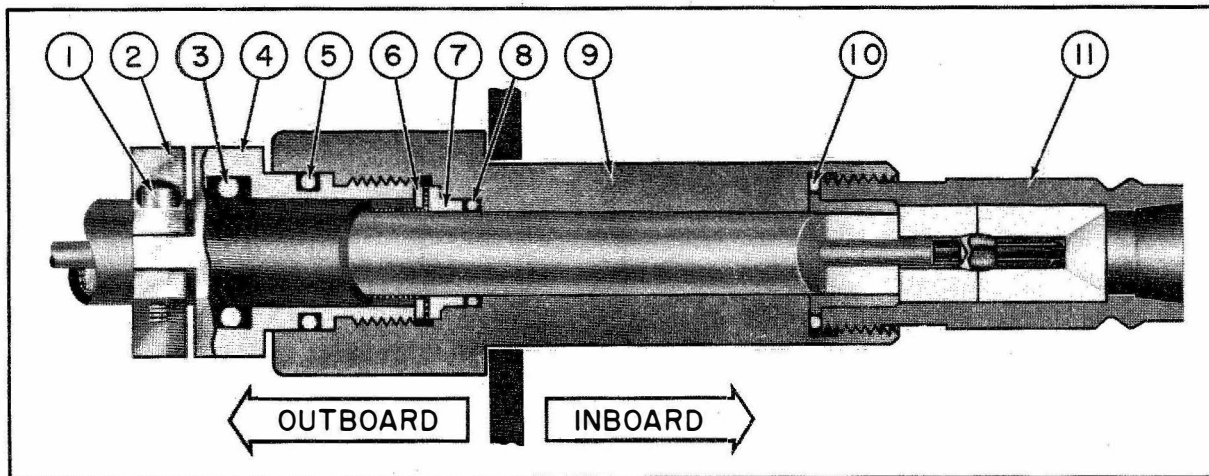

Figure 5-9a. UG-988D/U Assembled
(4) UG-988D/U Detailed Assembly. - This fitting is used with RF coaxial cable types RG-17/U, RG-17A/U, RG177/U, or with other types having a jacket OD of 0.855 inch minimum - 0.910 inch maximum, a dielectric OD of 0.665 inch minimum - 0.695 inch maximum, and an inner conductor diameter of 0.187 inch maximum. The cable is terminated in the fitting, inside the pressure hull, by an especially designed QDL fitting. A pressure hull entry hole, 1.5 inches in diameter, is required for installation of the fitting. An assembled view is shown in figure 5-9a. In this view, the various parts are assigned piece numbers which are used for reference in the following assembly instructions. Table 5-5 lists the stock numbers for the required parts.
Step 6. - Clean the cable dielectric of insulation compound. Insert the cable into the hull fitting to the point where the O-ring, O-ring followers, braid, and braid clamp washer are properly seated as illustrated in figure 5-9a. Exert hand-pressure on the cable to maintain seating of the above pieces and tighten the cable seal nut assembly into the hull fitting. Improper seating could result in decreased efficiency of the transmission line.